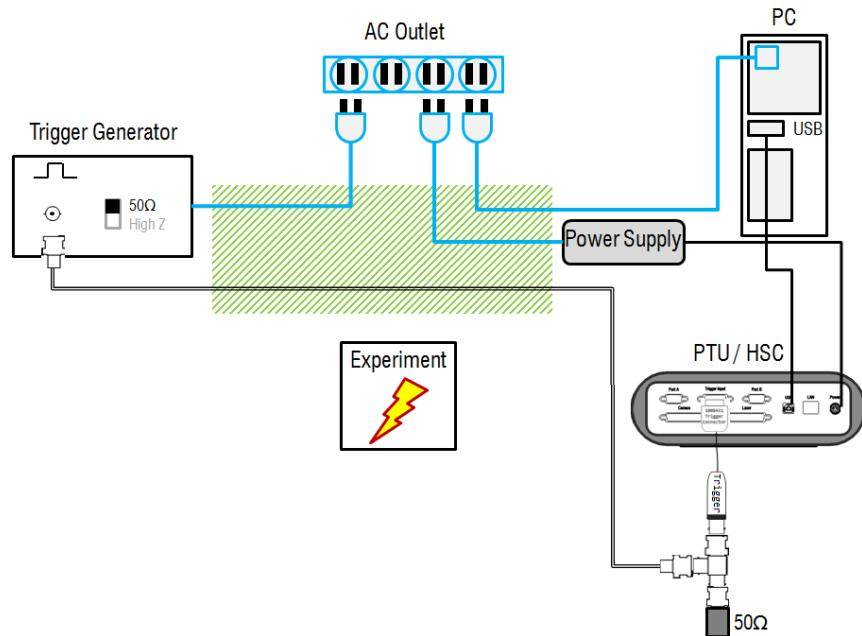
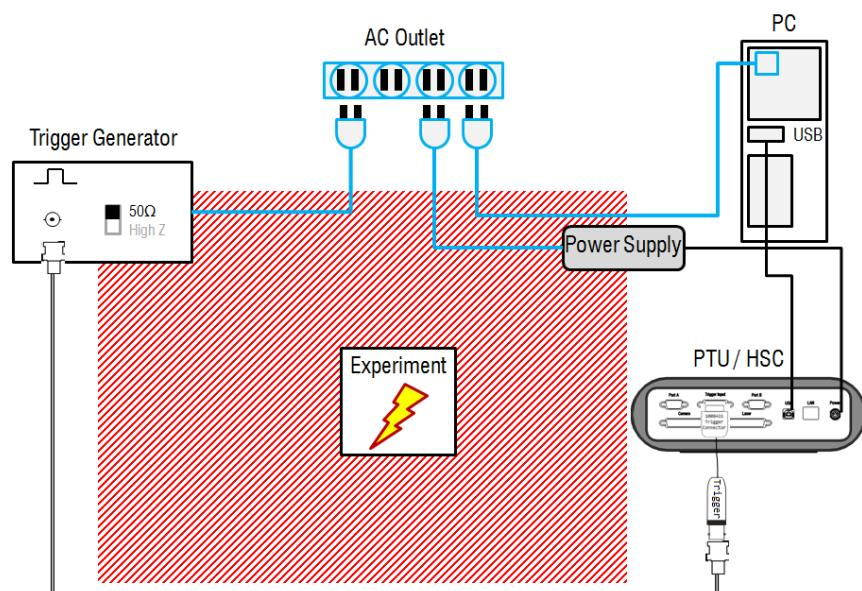

Figure 2.17: Optimized routing with parallel lines and small EM-sensitive area (green)
Figure 2.18: Bad routing with large EM-sensitive area (red)
- Keep all cables from a device parallel as much as possible. Reduce the area covered by the cables (see fig. 2.17). Avoid large areas surrounded by cables going to the same device (see fig. 2.18).